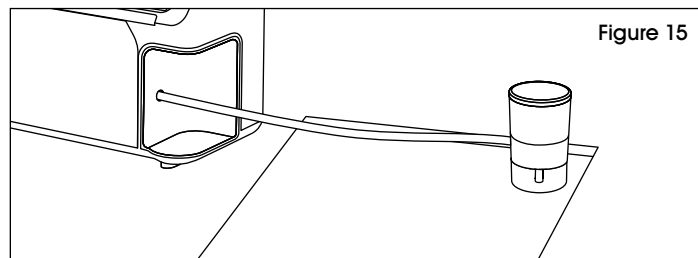

Figure 15
4. Place end of handheld sealer over zipper bag valve. (See Figure 15)